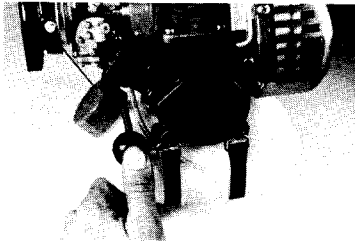

Fig. 6a
- Pump primer until fuel flows from over flow tube, see figure 6a